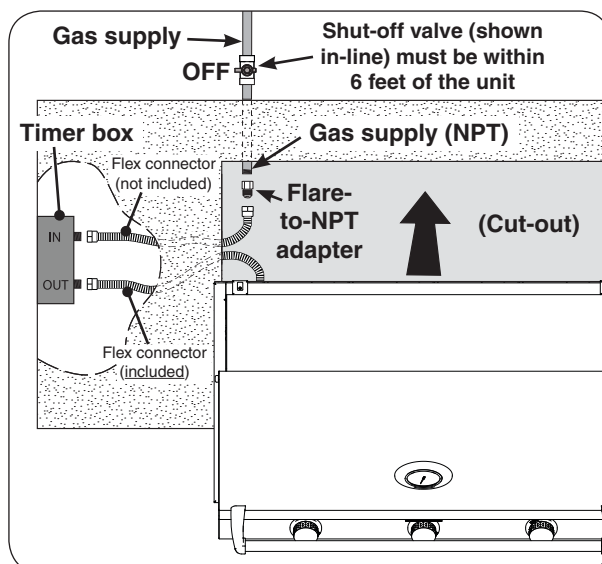

Fig. 20-3 Household LP & Nat. gas diagram
3. Using two wrenches, connect the flex connector coming from the grill to the 1/2" flare adapter labeled **OUT**. See Fig. 20-3. Ensure the connection is tightened securely.
4. **Connect gas source to IN:** Using two wrenches, connect a flex connector (not included) to the 1/2" flare adapter labeled **IN**. See Fig. 20-3. Ensure the connection is tightened securely.
5. Route the flex connector coming from the timer box to the gas supply stub (see Fig. 20-3).